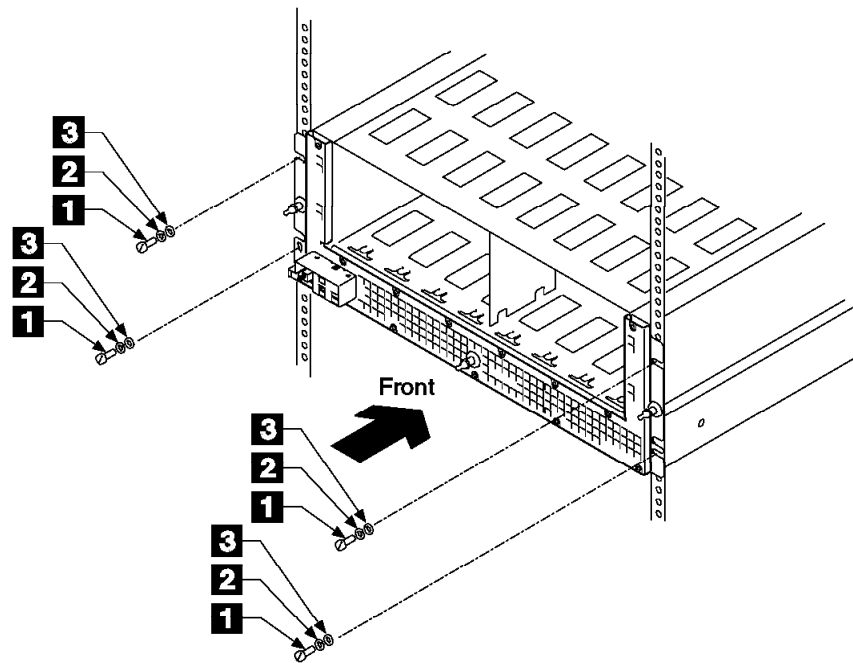

Figure 135. Support Rail Installation (t007200n)
- ___ 6. Fully tighten the four front mounting screws **1**, see Figure 135 on page 147.